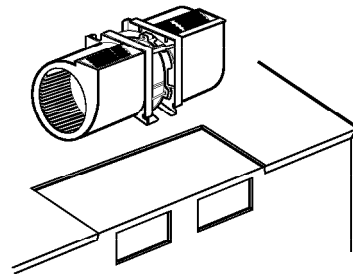

Figure 28
- (3) Carefully pull the ventilation motor ASS'Y out of the microwave oven. (See Figure 28)
- (4) Disconnect the wire leads.